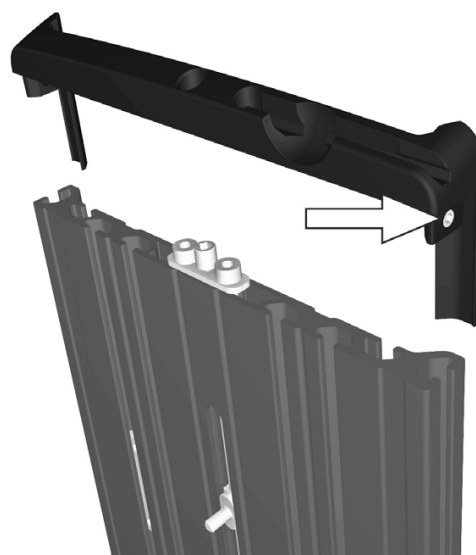

Figure 197. The end cover of the backrest profile is secured using one screw on the left side and one on the right.
7. Loosen the screws on the left and right side of the backrest profile and then remove its end cover by sliding it straight out. See fig. 197.